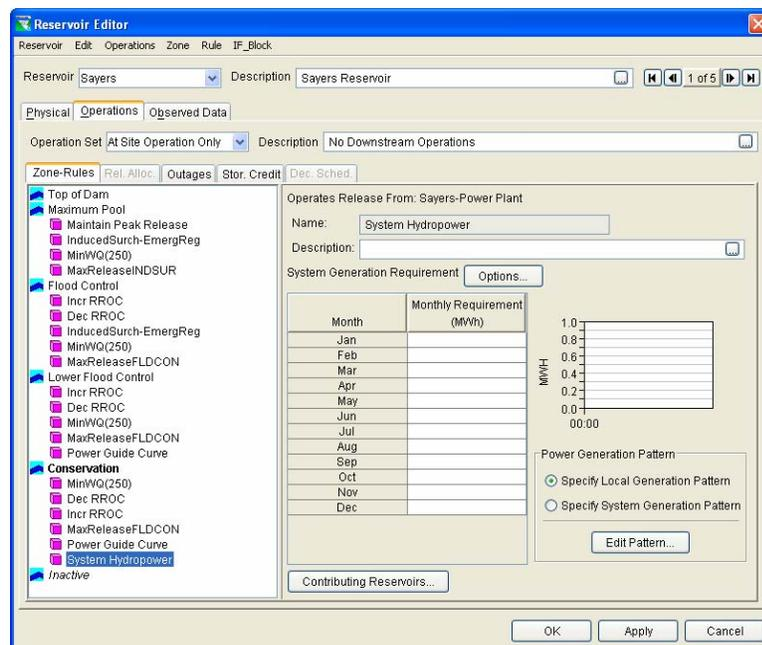

Figure 11.37 Hydropower – System Schedule Rule Editor
2. Highlight the appropriate rule in the operations tree to access the **Hydropower – System Schedule** rule editor (Figure 11.37). The name and description of the rule will appear in the **Hydropower – System Schedule** rule and **Description** fields.